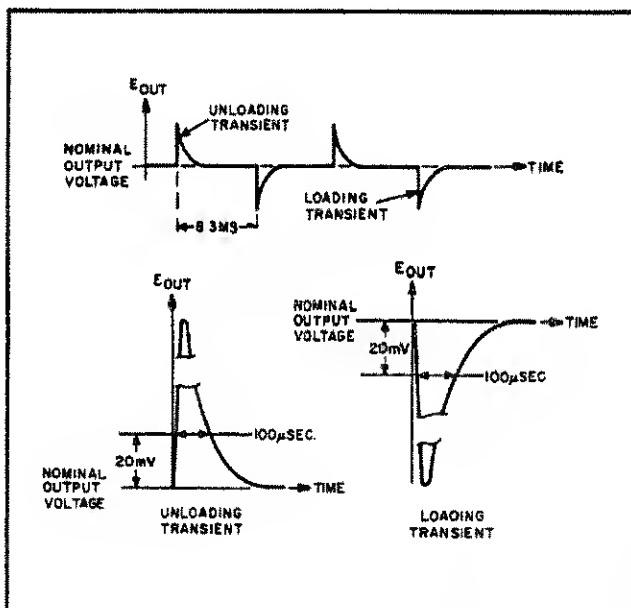

Figure 5-5. Transient Recovery Time, Waveforms
- Starting from the major graticule division representative of time zero, count to the right 100μsec and vertically 20mV. Recovery should be within these tolerances as illustrated in Figure 5-5.